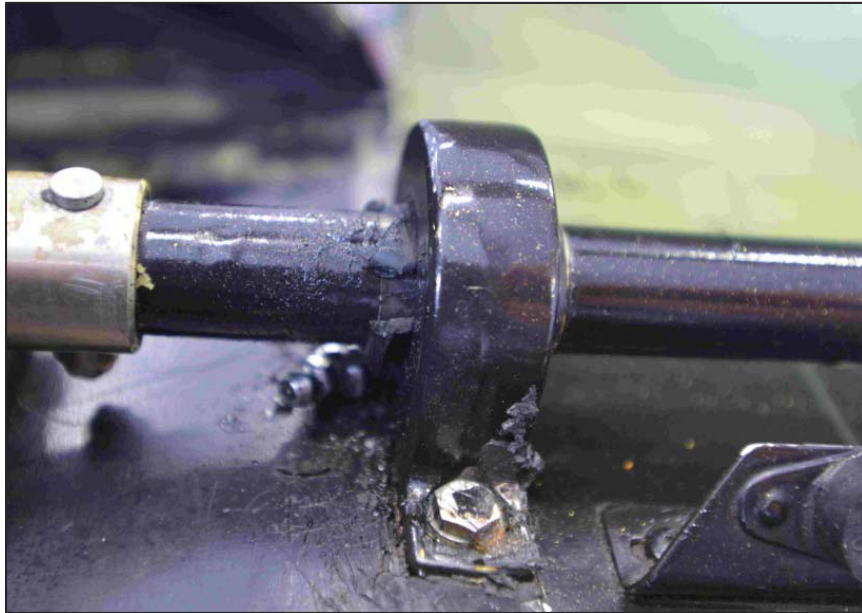

Figure 1. Bushing Deterioration (forward side shown)
- 6.2 Inspect the bushing for interference with the bearing housing (Figure 1).